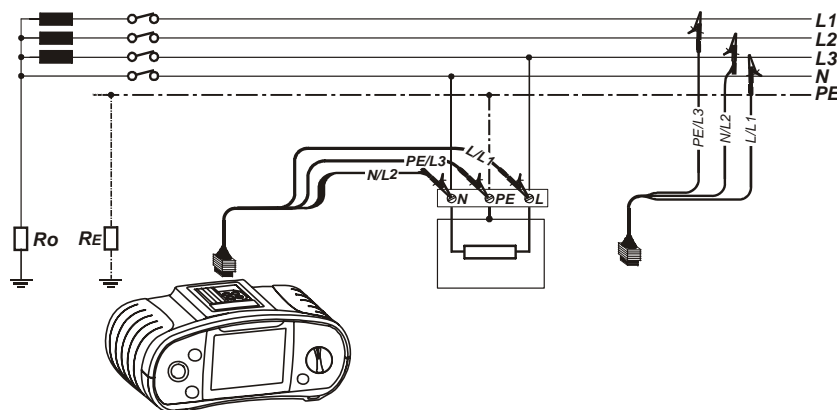

Figure 5.3: Voltage measurement
- ❑ **Connect** test leads to the tested object (see figure 5.3).